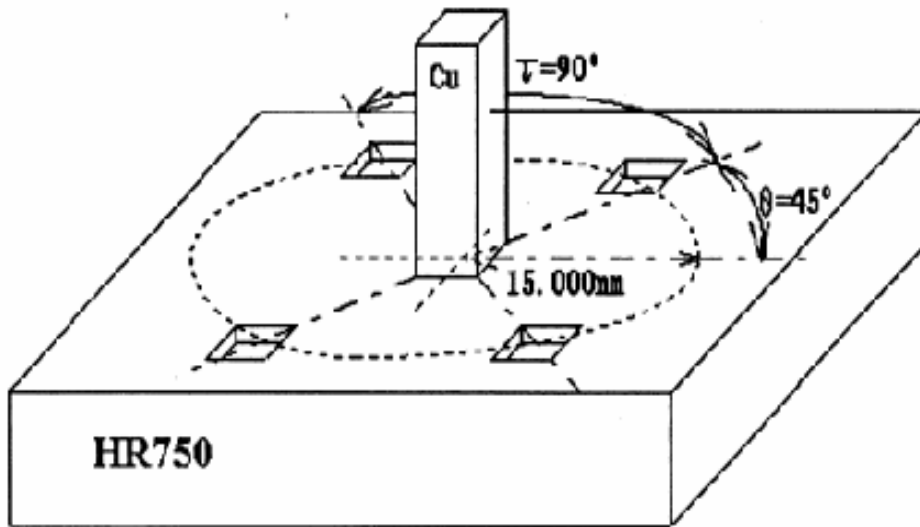

Fig.8.4.7
The multiple cutting (assist, assist cutting with 1 electrode) is executed at the circle cutting positions. The cutting diagram is shown as Fig.8.4.7.
- 9) Press the [Start angle 0] button, the start angle shown in Fig.8.4.7 is 45 degree, therefore, input [4], [5], [.), [% [0], [0].
- 10) Press the [Cutting pitch angle Z] button, the cutting pitch angle shown is Fig 8.4.7 is 90 degree, press the digit keys [9],[0],[.),[0],[0],[0].